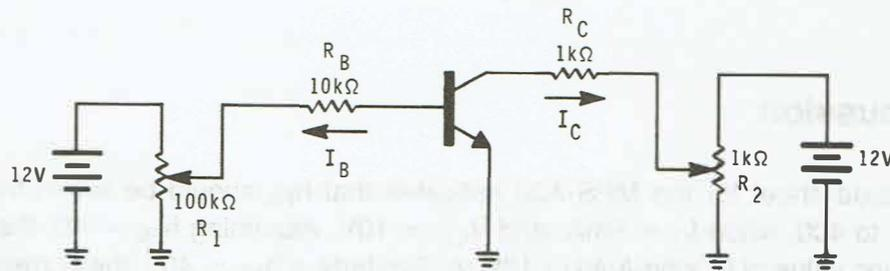

Figure E1-2
8. With the ET-1000 Trainer turned off, construct the circuit shown in Figure E1-2. Adjust R_1 and R_2 to approximately mid-range.